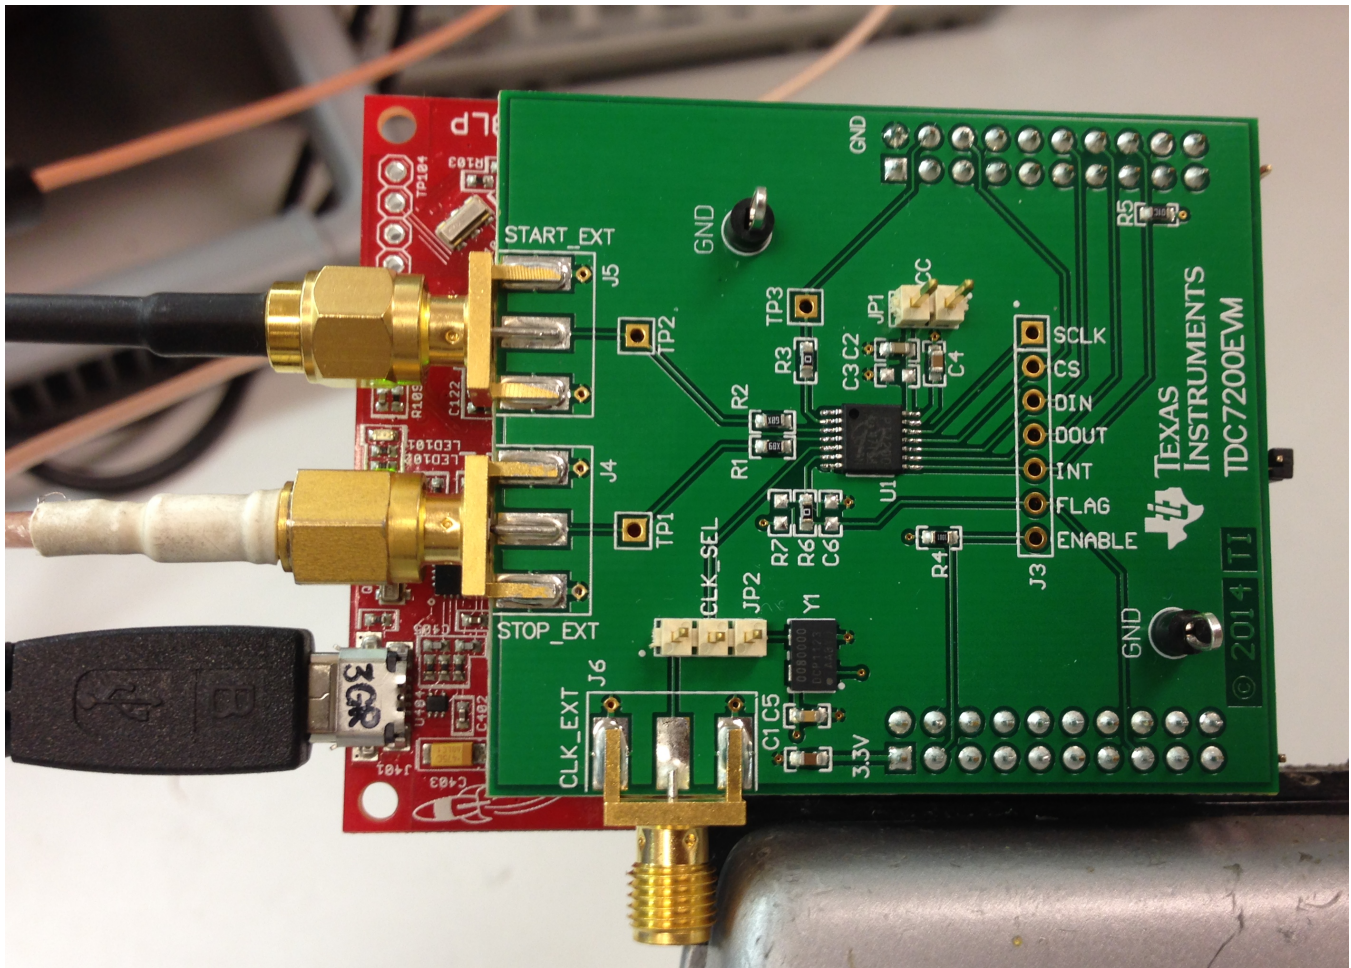

Figure 6. TDC7200EVM Connection
2. If you haven't done so, connect the **TDC7200EVM** to the MSP430 Launch Pad via J1 and J2 as shown in Figure 6.
2. If you haven't done so, connect the TDC7200EVM to the MSP430 Launch Pad via J1 and J2 as shown in Figure 6.
- (b) Using a USB-to-SMA cable, connect channel 2 of the dual function generator to TDC7200EVM's **STOP** connector (J4). See Figure 6.